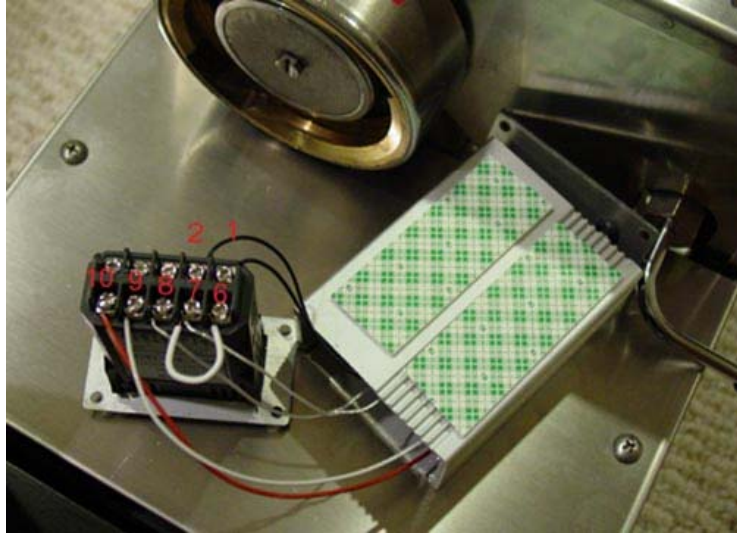

Figure 17. Wiring the controller.
- 3) Feed the cables through the controller box. Connect them to the controller as shown in Fig 17. Wiring the controller correctly is very critical step. Failure to install it correctly can cause damage to the machine and electric shock. The terminal numbers are printed on labels located on both sides of the controller. The black colored power cables need to be connected to terminal 1 and 2. SSR input cable has a polarity. The red colored cable from SSR has polarity (+) and is connected to terminal 10; and the white colored cable is connected to terminal 9. The RTD cable needs to be connected to terminal 7 and 8. The white colored RTD jumper cable needs to connect to terminal 6 and 7. The detail is shown in Table 1 and Fig 16b.